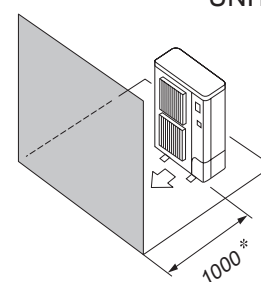

Fig. 3-9
- Obstacles at front only (Fig. 3-9)